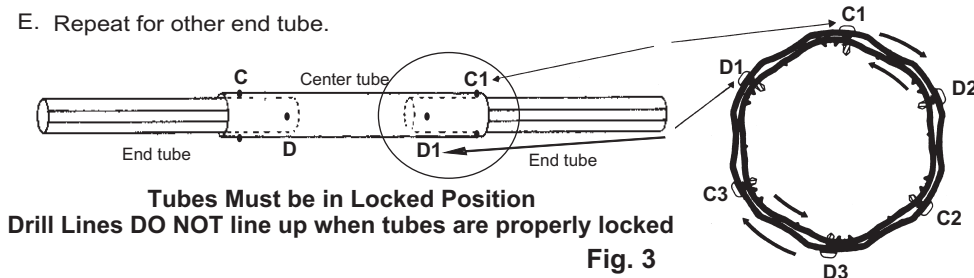

Fig. 3
B. Lock tubes together by rotating the center tube in the opposite direction to end tube. **HOLD TUBES LOCKED WHILE YOU INSTALL FIRST SELF-DRILLING SCREW ON A DRILL LINE, 1" (2.5 cm) back from end of center tube at location "C1"** (Fig. 3 & 4).
C. Place 2 more self-drilling screws at Location "C2" and "C3" - 1 screw at every second drill line around tubes (see Fig. 3).
D. At "D" Locations, install 3 screws around the center tube at every second drill line, 1" (2.5 cm) back from where you marked the end of the inner tube (see Fig. 3).